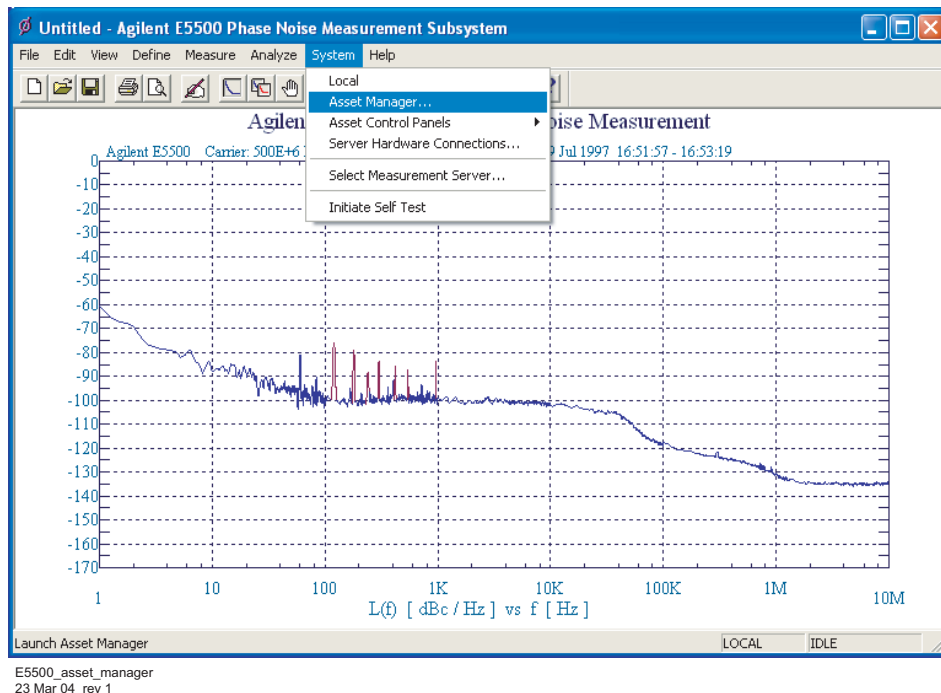

Figure 21 Navigate to Asset Manager
- 1 Using Figure 21 as a guide, navigate to **Asset Manager**. For this example we invoke the Asset Manager Wizard from the E5500 main screen. This is the most common way to add assets.